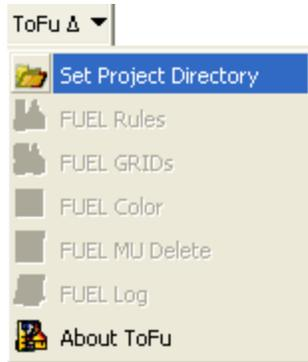

Figure 7-10. Use the drop-down menu to select **Set Project Directory**.
- To create a directory, click on the drop-down menu on the ToFuΔ toolbar and select “**Set Project Directory**” (fig. 7-10).